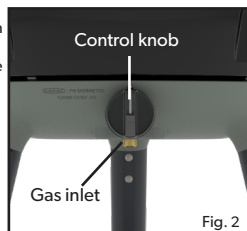

Fig. 2
- To light up the appliance using the piezo igniter, push and turn the control knob (fig.2) in an anticlockwise direction until you hear a click. If the gas does not ignite on the first spark, turn the control knob back to its "OFF" position. Try again, by pushing and turning the control knob anti-clockwise until you hear a click. If the gas has not ignited in the first two to three seconds you should close the control valve by turning the control knob back to its "OFF" position.